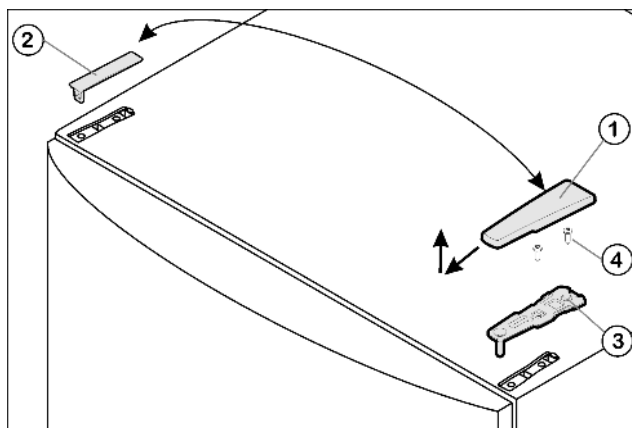

Fig. 4
- Pull off the cover Fig. 4 (1) forwards and upwards.
- Lift off the cover Fig. 4 (2).
- Unscrew the upper turn hinge Fig. 4 (3) (2x Torx® 25) Fig. 4 (4) and lift it off.
- Insert the upper turn hinge Fig. 4 (3) in the door on the new hinge side.
- Screw the upper turn hinge **firmly** into place (**with 4 Nm**) (2x Torx® 25) Fig. 4 (4). Possibly make preliminary holes with a bradawl or use a cordless screwdriver.
- Apply the cover Fig. 4 (1) and cover Fig. 4 (2) to the opposite side from the outside and snap them into place.